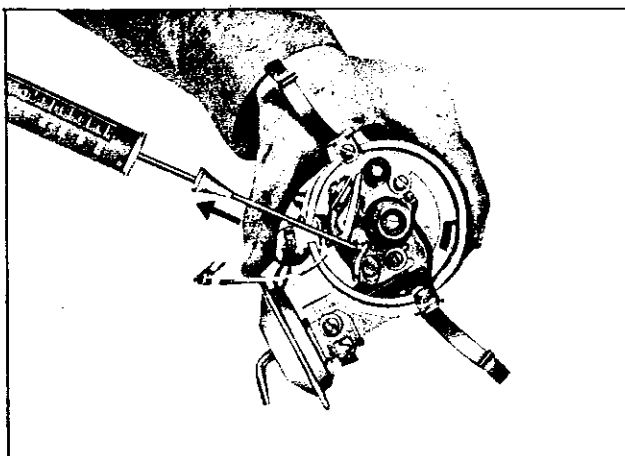

Fig. EE-90 Point pressure test
8. Figure EE-90 shows the exploded view.